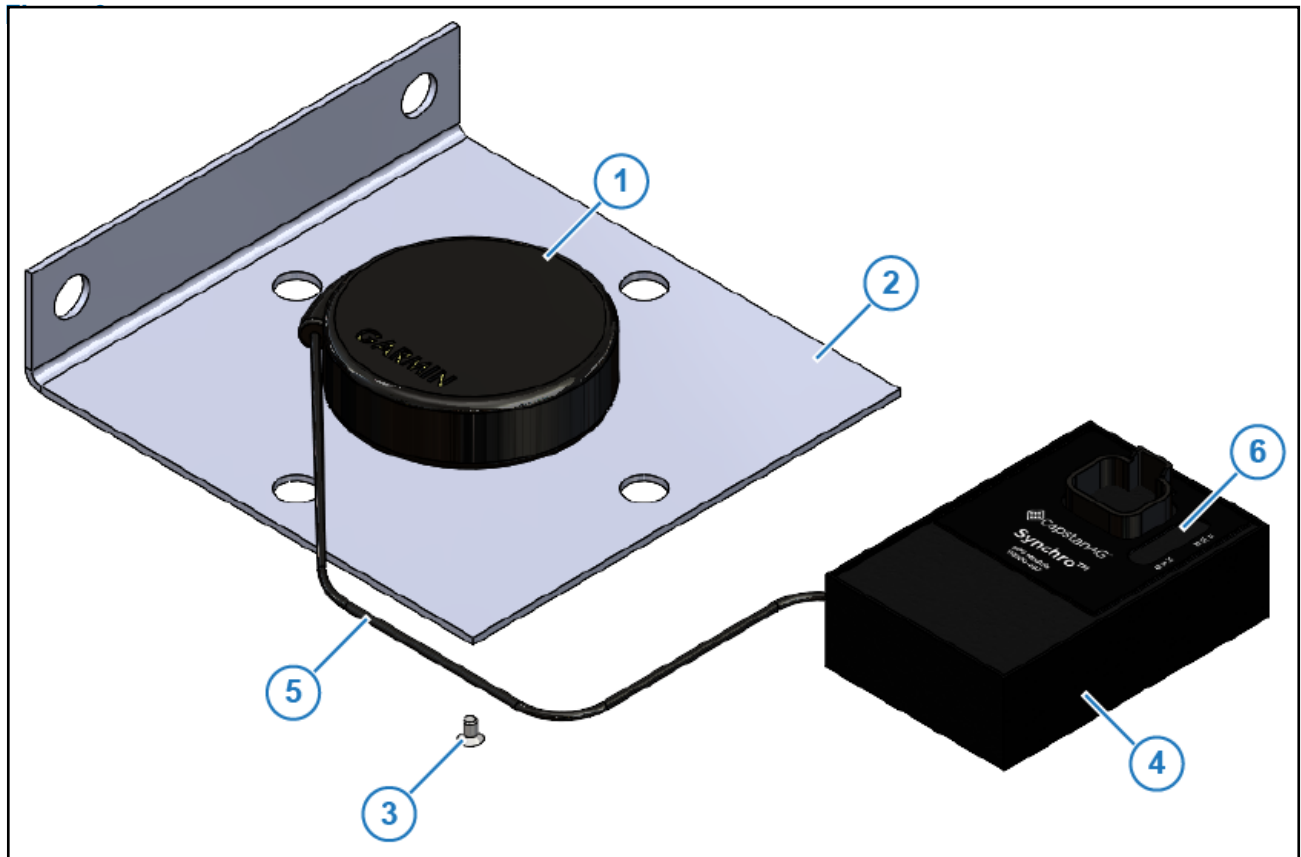

Figure 9: GPS Puck
1. Choose placement of GPS puck (Figure 9, Item 1) for an unobstructed view of sky.
2. Install GPS puck mount plate (PN 113100-419) (Figure 9, Item 2) using the hardware included (Figure 9, Item 3) with puck on top. Or place GPS with magnetic bottom on metal surface.
3. Choose placement of GPS module (Figure 9, Item 4) near controller. Route and secure harness (Figure 9, Item 5) appropriately. The GPS module harness will be connected to the 4-pin GPS drop on the Power harness, near the controller. Secure module with zip ties. Make sure LEDs on module (Figure 9, Item 6) are within view for reference.